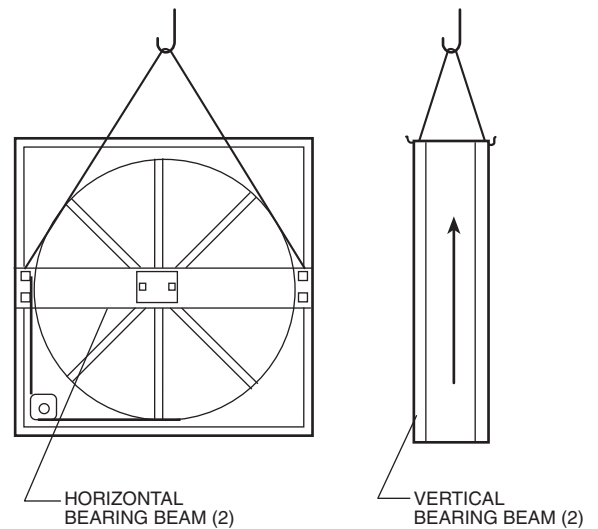

Fig. 163 — Lifting Hole Locations
2. Handle ERV cassettes with care. Lift by the bearing support beam. Holes are provided on both sides of the bearing support beams to facilitate rigging (Fig. 163).